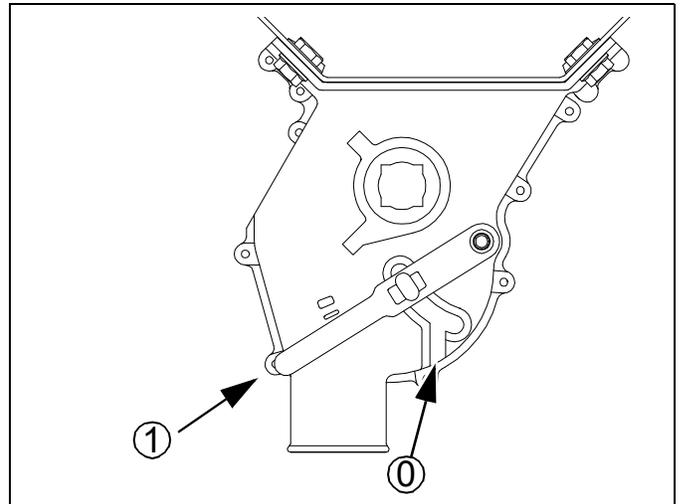

Figure 117
Refer to Figure 117, which depicts the seed cup door handle ① in normal operating position (1).
2. At the seed cup for that row, pull the door handle ① out of the operating detent range, and swing it down to position ②.